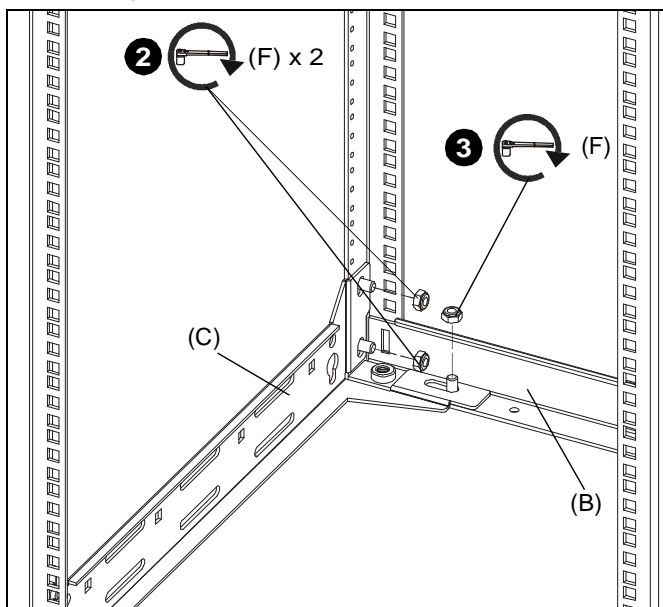

Figure 2
4. Repeat steps 1-3 to secure right frame (B) to brace (C). (See Figure 2)